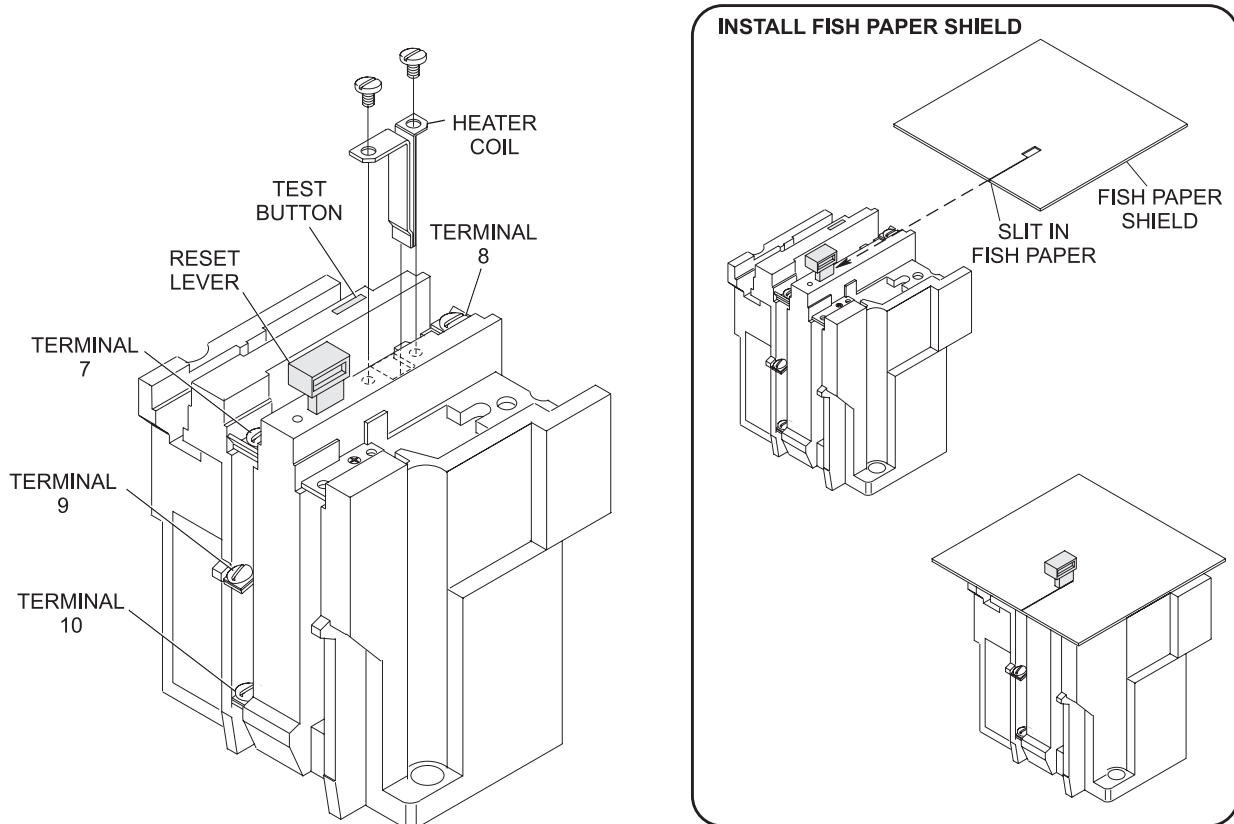

Figure 10
19. Mount the heater coil. Refer to *Figure 10*.
i **NOTE:** It may be necessary to push reset lever on overload relay. Refer to *Figure 10*.
25. Install fish paper shield on reset lever shaft so that the entire top of the relay is covered. Trim if needed. Refer to *Figure 10*.